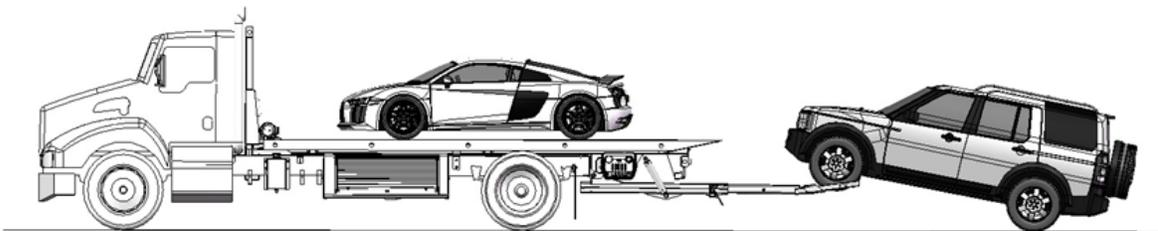

FIGURE 42 – RAISING THE TOWED VEHICLE
6. Slowly raise the towed vehicle with the wheel lift, ensuring that the vehicle remains securely in place and that the wheel lift and L-arms do not come into contact with any part of the vehicle, as shown in Figure 42.